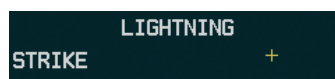

Figure 6-19 Lightning Legend
- 1) Select the **MAP** Softkey. This step is not necessary on the Weather Data Link (XM) Page.
To display the SiriusXM Lightning legend on the Weather Data Link (XM) Page (Figure 6-19), select the **LEGEND** Softkey when SiriusXM Lightning is selected for display.